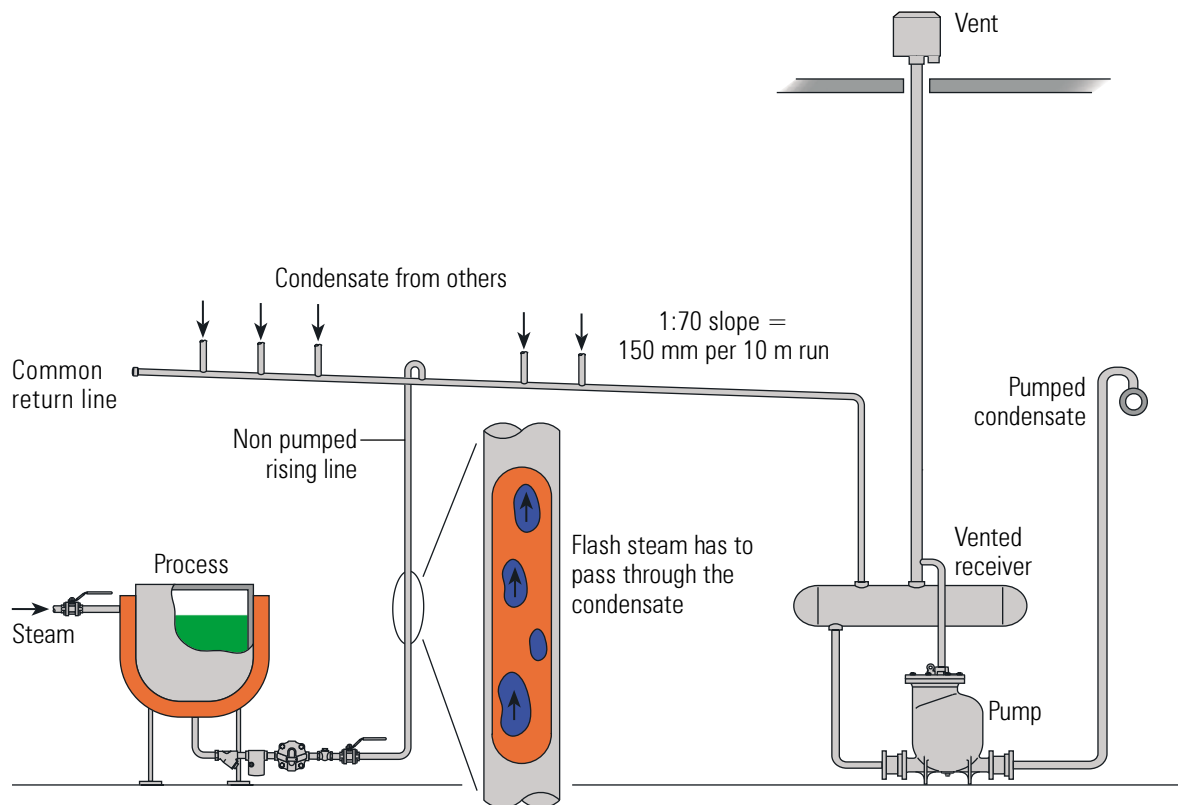

Fig. 14.3.4 Keep rising lines short and connect to the top of return lines
2. If it is unavoidable, non-pumped rising lines (Figure 14.3.4) should be kept as short as possible and fitted with a non-return valve to stop condensate falling back down to the trap. Risers should discharge into the top of overhead return lines. This stops condensate draining back into the riser from the return main after the trap has discharged, to assist the easy passage of flash steam up the riser.
- Common return lines should also slope down and be non-flooded (Figure 14.3.4). To avoid flash steam occurring in long return lines, hot condensate from trap discharge lines should drain into vented receivers (or flash vessels where appropriate), from where it can be pumped on to its final destination, via a flooded line at a lower temperature.
As the discharge line is non-flooded, the lower figure of 25 mm is selected from the chart (Figure 14.3.4).
As the discharge line is rising and thus flooded, the upper figure of 32 mm is selected from the chart, (Figure 14.3.4).
As the line is non-flooded, the lower figure of 20 mm is selected from the chart, (Figure 14.3.4).
As the trap discharge line is rising, the upper figure of 25 mm is selected from the chart, (Figure 14.3.4).